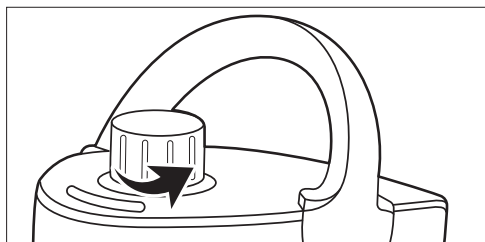

Fig. 1
1. Turn the water tank cap (3) anti-clockwise to remove it (Fig. 1).